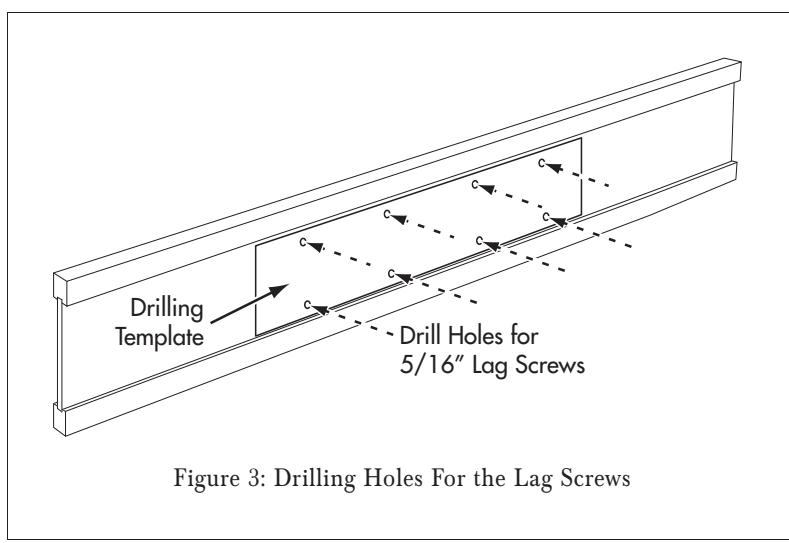

Figure 3: Drilling Holes For the Lag Screws
2. Attach the included Mounting Hole Drilling Template to the ceiling joist at the BPS-1 mounting location (see *Figure 3*). Make sure that the template is placed high enough so the BPS-1 cabinet will not contact the ceiling material after installation. (Contact can cause buzzing during operation.)
3. Drill eight  $5/16"$  holes through the joist at the locations indicated on the Drilling Template (see *Figure 3*).